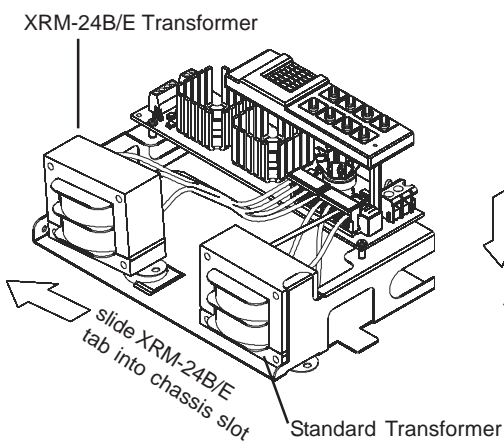

Figure 1
- 3) Slide the top tab on the XRM-24B/E transformer into the slot located in the chassis as illustrated in Figure 1.